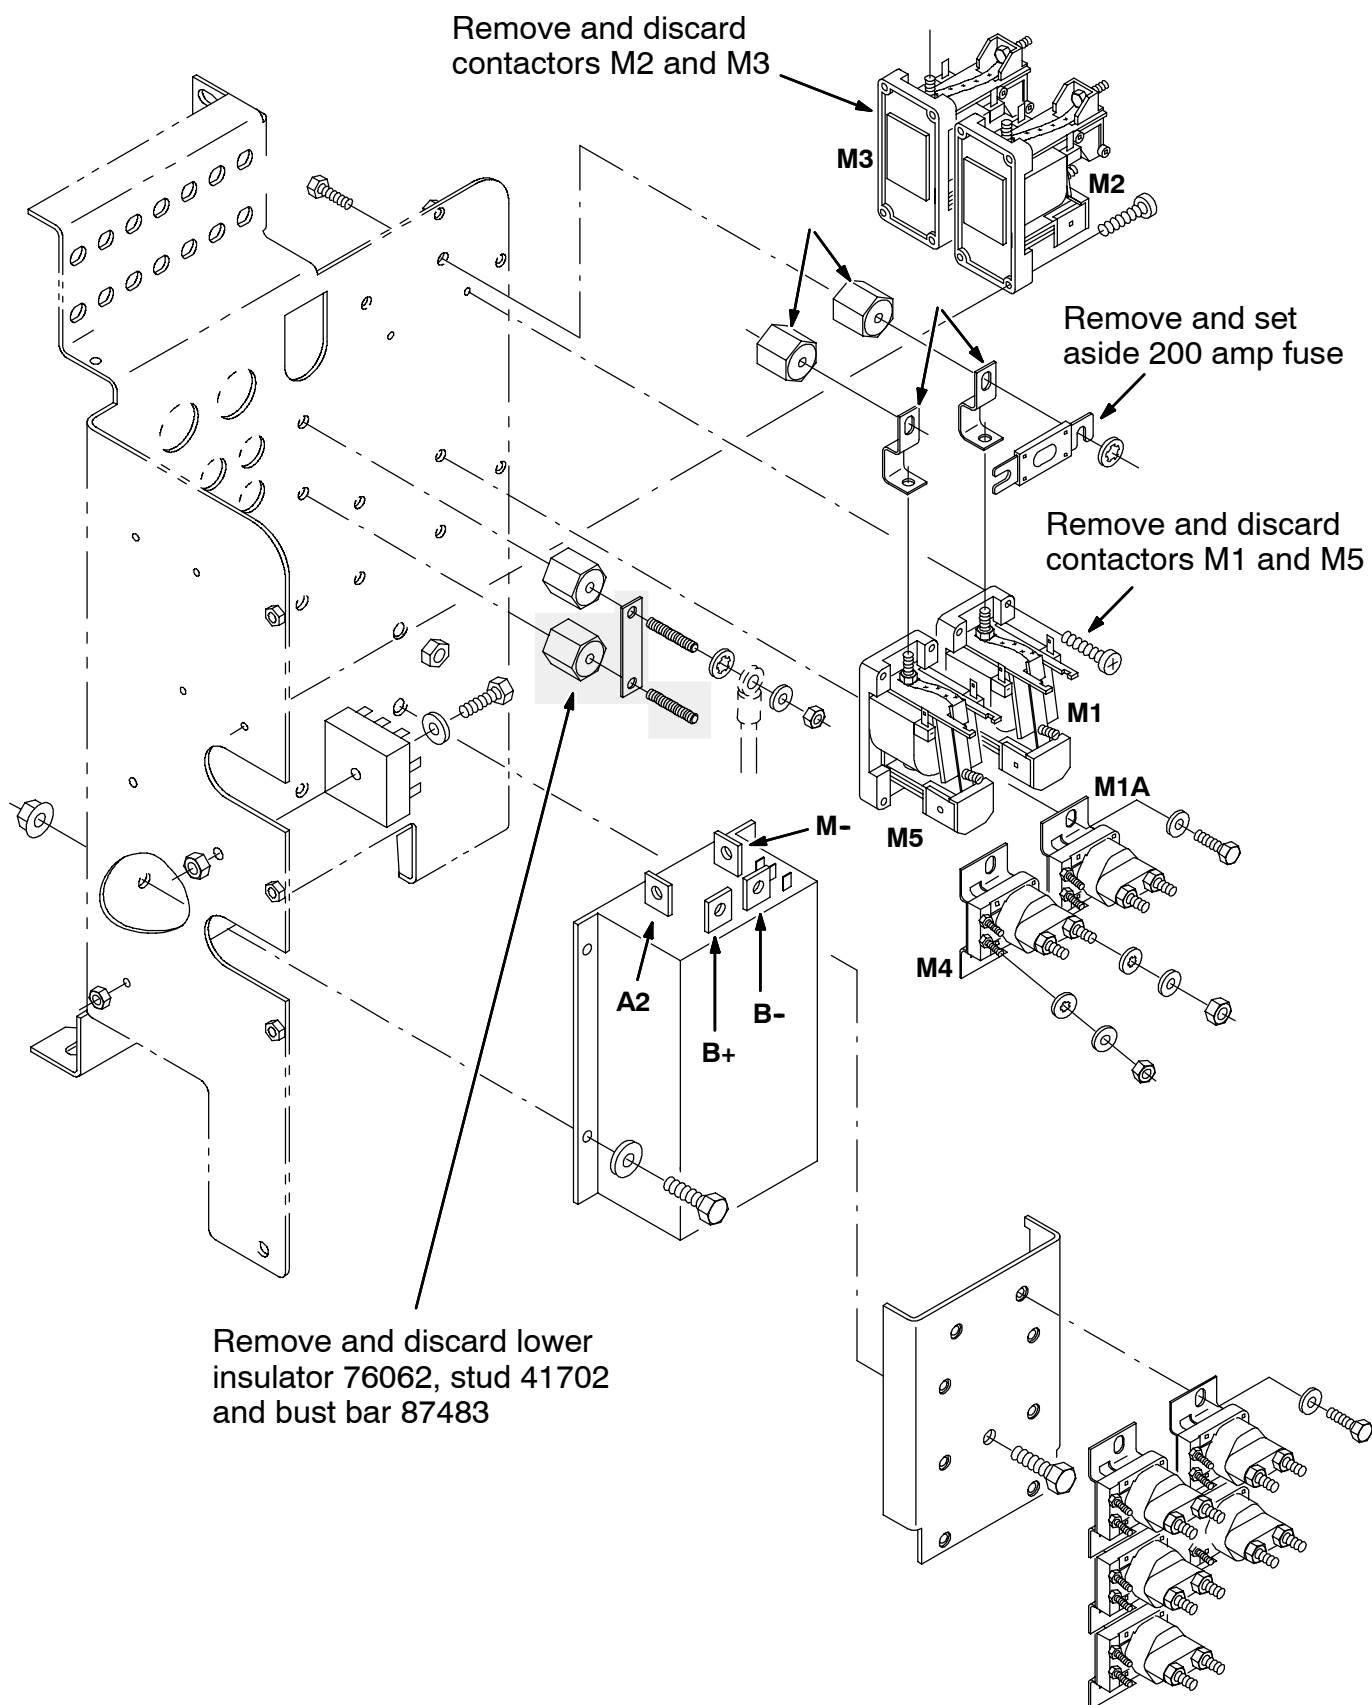

FIG. 1 - Contactor and Insulator Removal
(Refer to FIG. 1, FIG. 2, and FIG. 3)
1. Remove and discard contactors **M2** and **M3** and bus bars. (Refer to FIG. 1)
2. Remove and discard contactors **M1** and **M5** and bus bars. (Refer to FIG. 1)
4. Remove and discard lower insulator 76062, stud 41702 and bus bar 87483. (Refer to FIG. 1)